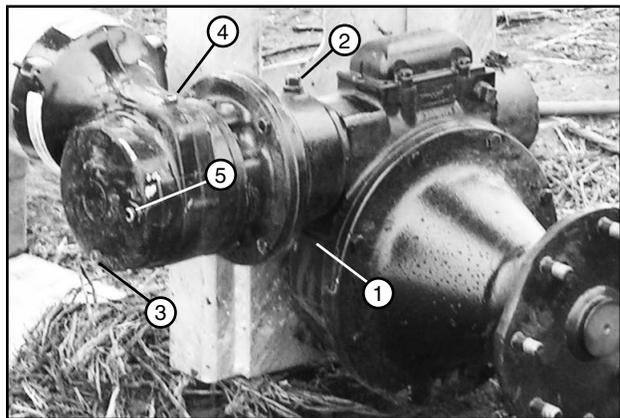

Figure 60-2 1. Drain Plug Bell Housing 4. Fill Plug Gear Motor
4. Remove fill plug and oil level plug from gear motor. See Figure 60-2.
5. Remove fill plug from bell housing. See Figure 60-2.